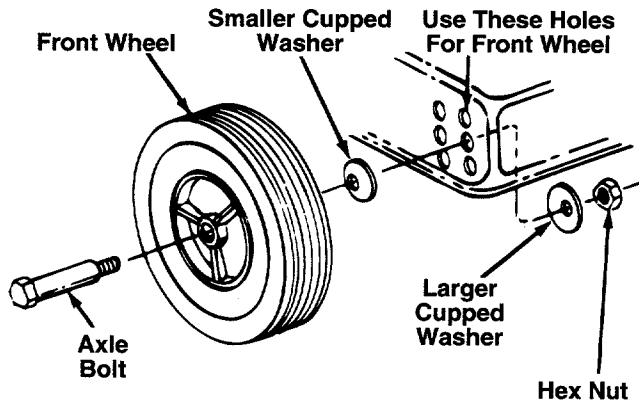

FIGURE 7.
- ← If your mower has two sets of holes (see figure 7), the front wheels must be assembled in one of the three holes nearest the front of the deck. The rear wheels must be assembled in one of the three holes nearest the rear of the deck.
To assemble the wheels: (See figure 7)
Adjustment may be made by removing and moving axle bolts to desired position. Cutting heights will be raised as axle bolts are moved to a lower hole and lowered as axle bolts are moved to a higher hole in the deck. All axle bolts must be mounted in the same relative position. Cupped washers must be assembled so that the cupped side of the washers are against the deck. Refer to figure 7.